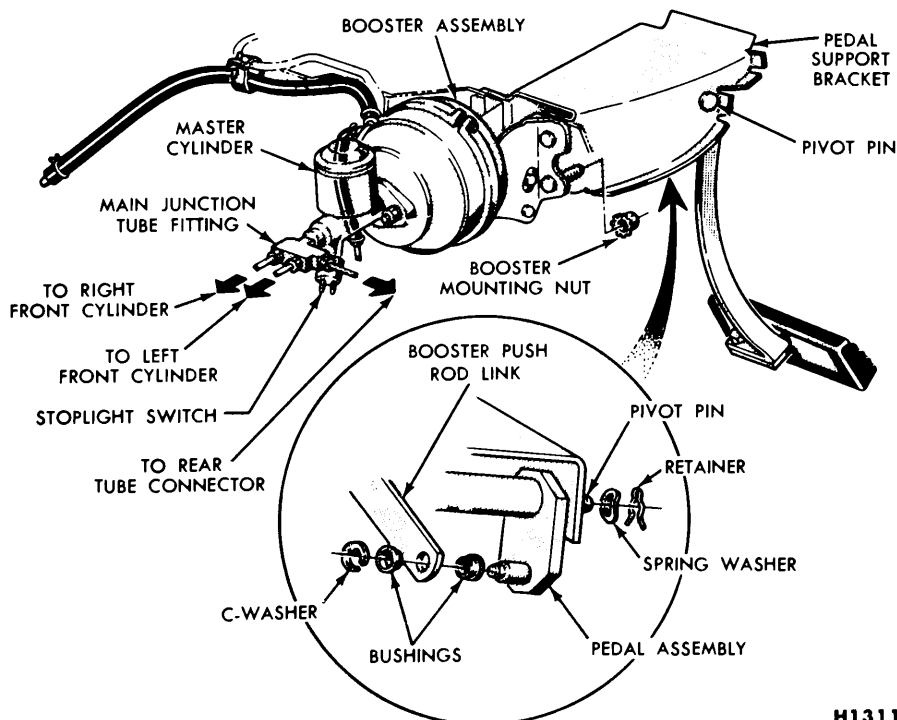

FIG. 14—Master Cylinder, Booster, and Pedal Installation
1. Disconnect the two wires from the stop light switch at the brake master cylinder (Fig. 14).
4. Connect the three brake lines to the outlet (main junction) tube fitting, but leave the line fitting nuts loose (Fig. 14).
1. Open the hood, and disconnect the wires from the stop light switch at the brake master cylinder (Fig. 14).
ings off the pin that is integral with the pedal. (Fig. 14).
6. Remove the booster and bracket assembly from the dash panel, sliding the push rod link out from the engine side of the dash panel (Fig. 14).
1. Mount the booster and bracket assembly to the dash panel by sliding the bracket mounting studs and the push rod link in through the holes in the dash panel (Fig. 14).
2. Working inside the car below the instrument panel, install the mounting bracket-to-dash panel retaining nuts and washers. Connect the booster push rod link to the brake pedal assembly. To do this, slide the push rod link and bushings onto the pin that is integral with the pedal. Secure the link to the pin with a horseshoe-type retaining clip (Fig. 14).
1. Remove the C-washer that retains the push rod link to the brake pedal assembly (Fig. 14).
2. Install the spring washer and secure the pivot pin by installing the retainer in the groove at the right end of the pin (Fig. 14).